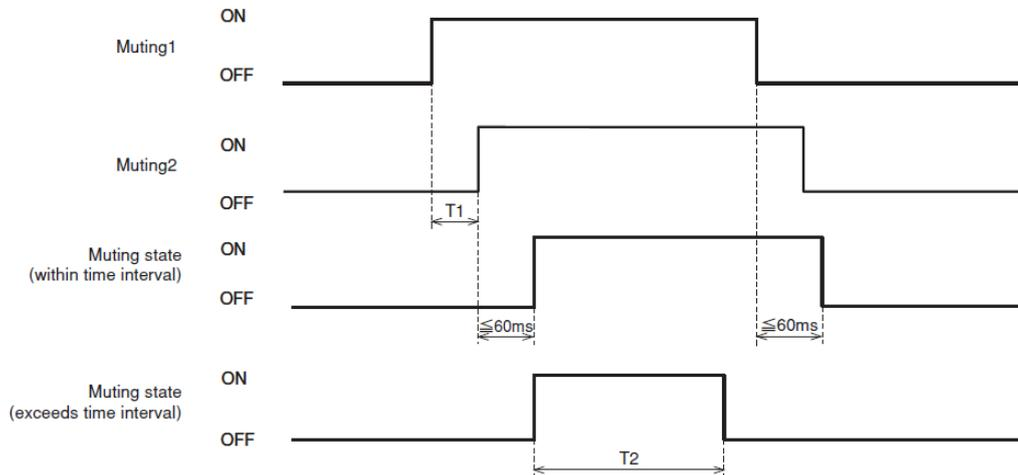

Figure 3-20 Muting sequence
- b) The two independent hard wired muting input signals are switched to ON state in the predefined sequence within the pre-set time interval. However, the switching interval between two input signals should be at least 30ms delay between the signals (Refer to figure 3-20).
- b) When the predefined (preset) maximum muting time T2 exceeds (1 minute and above) (Figure 3-20).
Figure 3-20 shows the muting sequence.